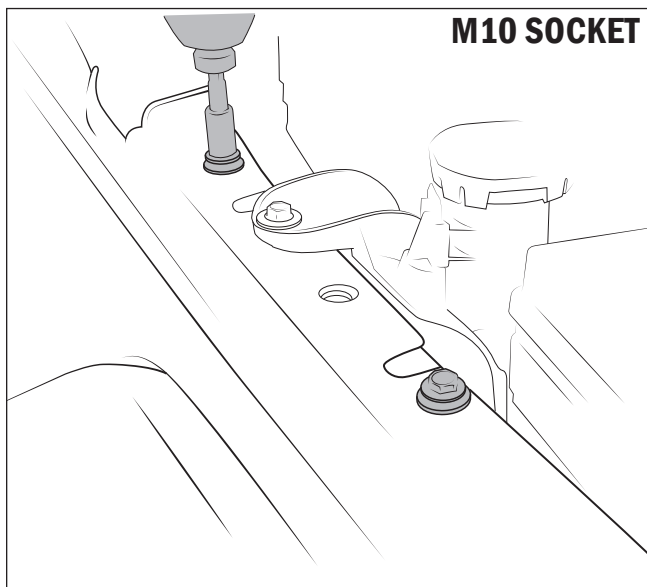

Figure 3.2
2. Remove the fender bolts (fig 3.2) and windshield bolts (fig 3.2) to prepare the vehicle for mounting the snorkel.